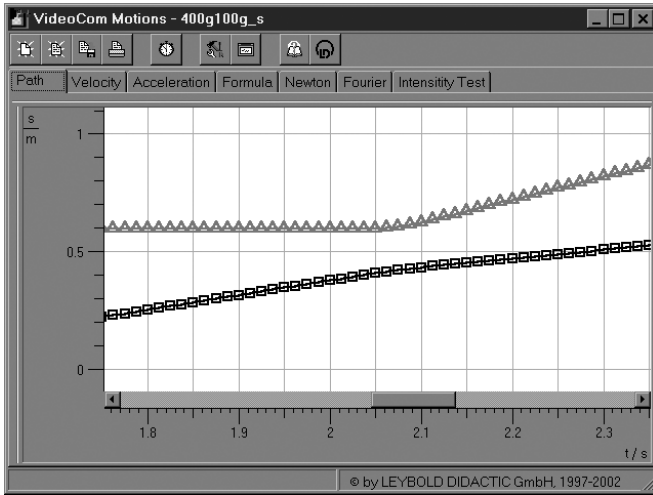
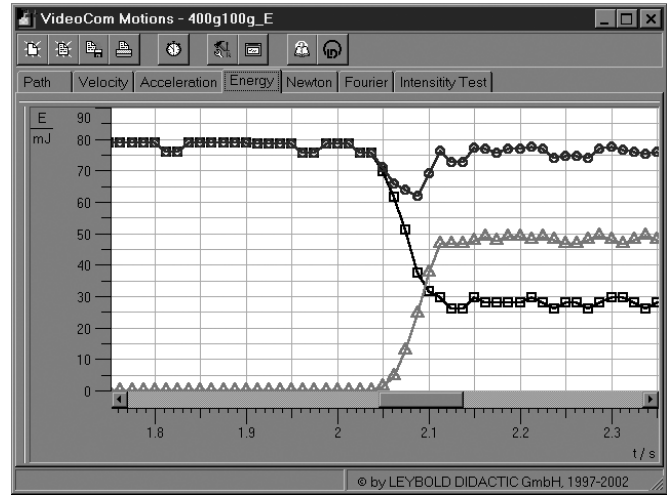

Fig. 8 Path-time diagram for $m_1 = 400\text{g}$, $m_2 = 100\text{g}$ (\square : glider 1, \triangle : glider 2).
Fig. 11 Kinetic energy-time diagram for $m_1 = 400\text{g}$, $m_2 = 100\text{g}$ (\square : glider 1, \triangle : glider 2, \circ : both gliders).
After the collision, the two gliders move uniformly in the same direction (see Fig. 8). The glider 1 retains 60 % of the momentum and 36 % of the kinetic energy after the collision. 40 % of the momentum and 64 % of the kinetic energy are transferred to the glider 2 (see Figs. 11 and 12, cf. (IV) and (V)). The total momentum and the total energy before and after the collision are equal. The total momentum is also conserved during the collision.